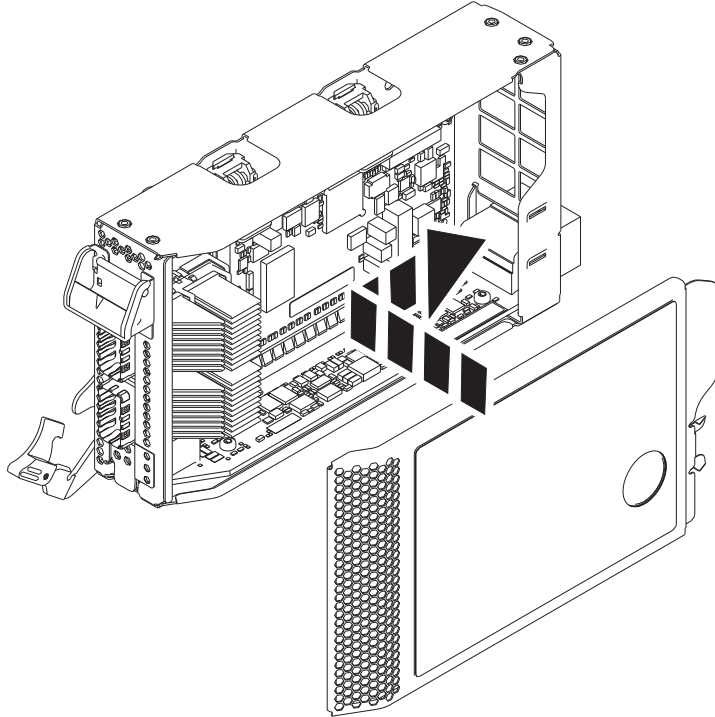

Figure 8. Replacing the PCIe adapter cassette cover
- a. Align and slide the cassette cover into position on the cassette as shown in Figure 8.